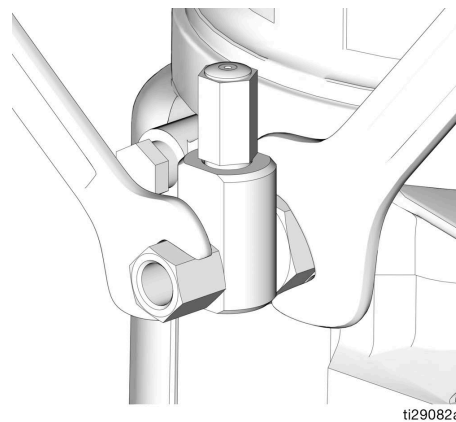

FIG. 17
1. Loosen pump element fitting (FIG. 17).
3. Tighten pump element fitting using two wrenches working in opposite directions (FIG. 17).